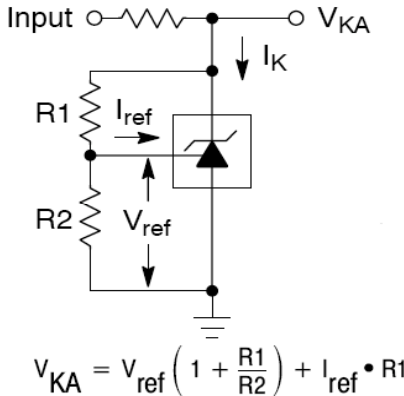

Figure 2: $V_{KA} > V_{ref}$
* When the device operating with two external resistors, R1 and R2, (refer to Figure 2) the total dynamic impedance of the circuit is given by: